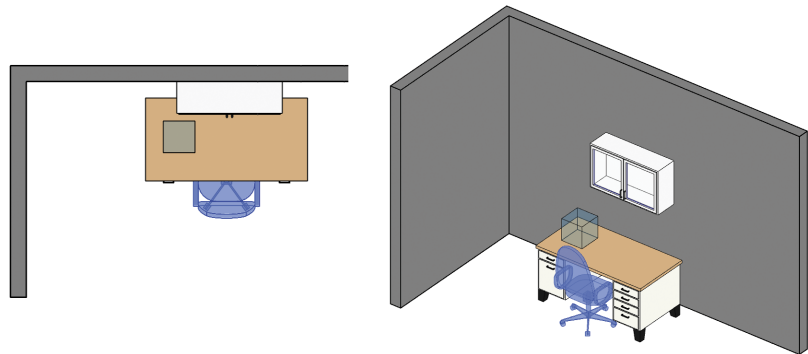

FIGURE 6.14 Loading and placing the chair in the project
2. From the Modify | Place Component contextual tab, click the Load Family button; under the Furniture folder, Seating subfolder, choose the Chair-Executive.rfa (M_Chair-Executive.rfa) family. Place it as shown in the left image in Figure 6.14, making sure the chair is centered under the desk's opening.